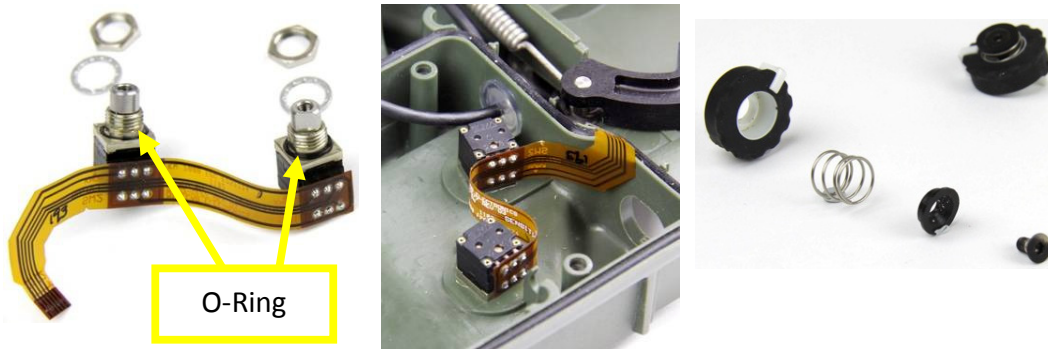

Figure 94: Control Switches
- Carefully align the control switches and the flexible ribbon cable within the detector body as illustrated in Figure 94.